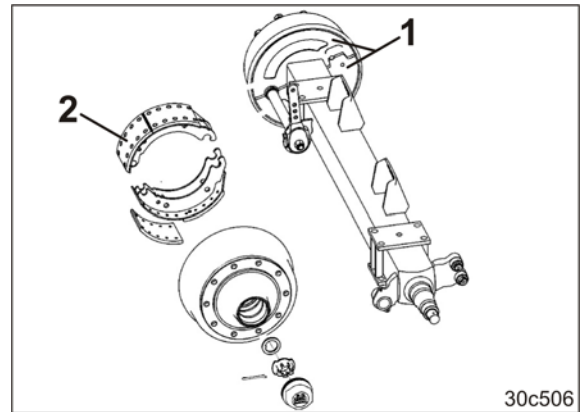

Fig. 281
1. Unscrew the two cover plates (Fig. 281/1) on the inside of the brake drum.
Penetrating dirt may clog the brake linings (Fig. 281/2), which considerably reduces the braking power.